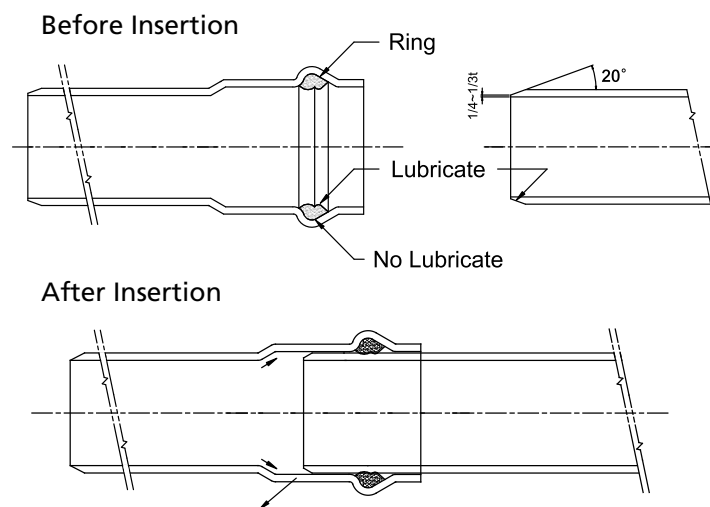

Fig 6
4. Lubricate the inner ring and the insertion section of the male pipe. Notice: No lubricant on the ring trough; otherwise it may cause loss of friction of the ring trough when the trough gets lubricated. Also, when male and female pipes combine, the rubber ring may be displaced and causes leaking. See Figure 6.